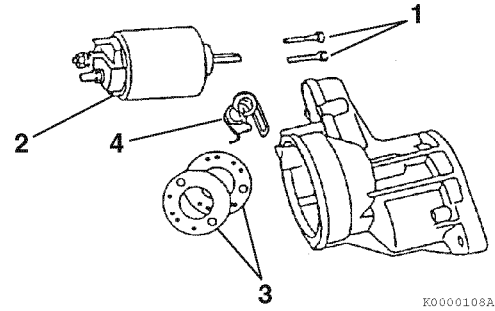

Figure 11-7
7. Remove the two M6 bolts **(Figure 11-7, (1))** retaining the magnetic switch assembly **(Figure 11-7, (2))** to the gear housing. Remove the magnetic switch assembly, dust cover(s) **(Figure 11-7, (3))** and torsion spring **(Figure 11-7, (4))** from the gear housing.